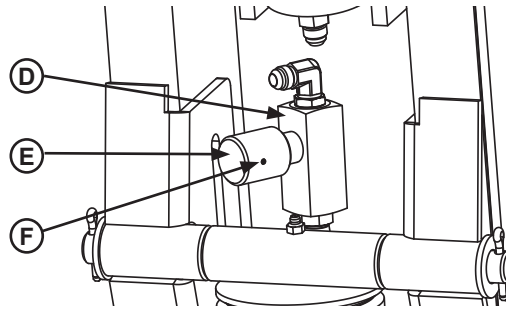

Figure 35
4. Loosen the allen head set screw (F). See **Figure 35**.
5. Set adjusting knob (E) as follows:
- To decrease the lowering speed, adjust knob (E) clockwise. (1/8 turn increments recommended.)
- To increase the lowering speed, adjust knob (E) counterclockwise. (1/8 turn increments recommended.)
6. Once ideal down speed flow control setting is achieved, lock the adjustment in place by tightening the hex screw (F) on the adjustment knob.